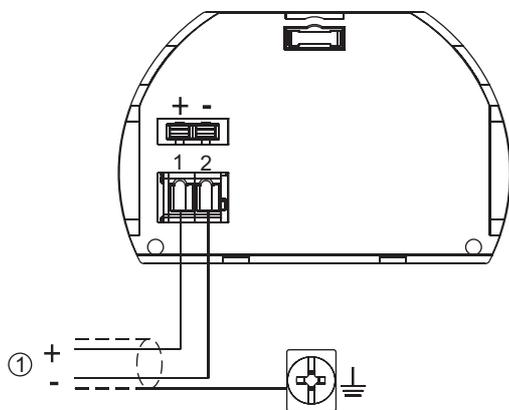

Fig.21
See in fig.21 the 2-wire HART connection (point ① shows the common supply and the 4÷20mA signal)